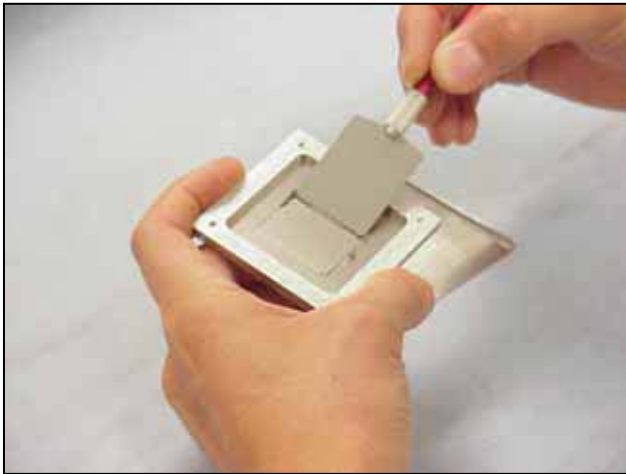

Figure 26: Printing BGA with Solder Paste
2. Print fresh solder paste onto BGA balls using CPF stencil (Fig. 26) Note: In many cases for plastic BGA components with eutectic solder balls, a thin coating of flux paste is applied to the board in lieu of adding additional solder paste.